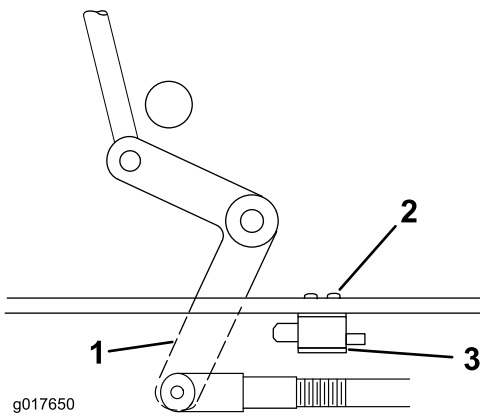

Figure 50
4. If needed, adjust the blade-safety switch by loosening the bolts holding the switch bracket (Figure 50).
5. Move the mounting bracket until the bellcrank presses the plunger by 6 mm (1/4 inch); refer to (Figure 50).